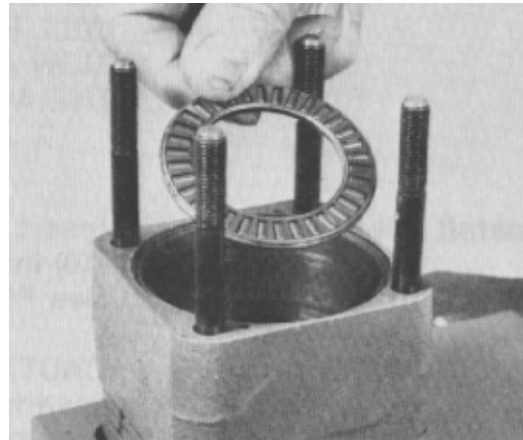

Figure 107
26. Lightly grease the roller thrust bearing and put it on the upper cover plate, inside the bearing spacer (Fig. 107).